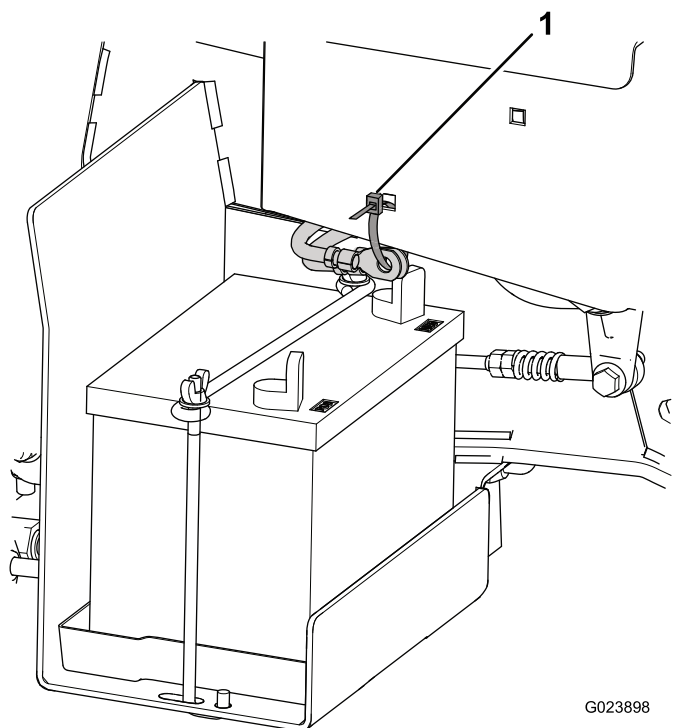

Figure 4
1. Cut the cable tie securing the battery cables to the frame, and discard the cable tie (Figure 4).